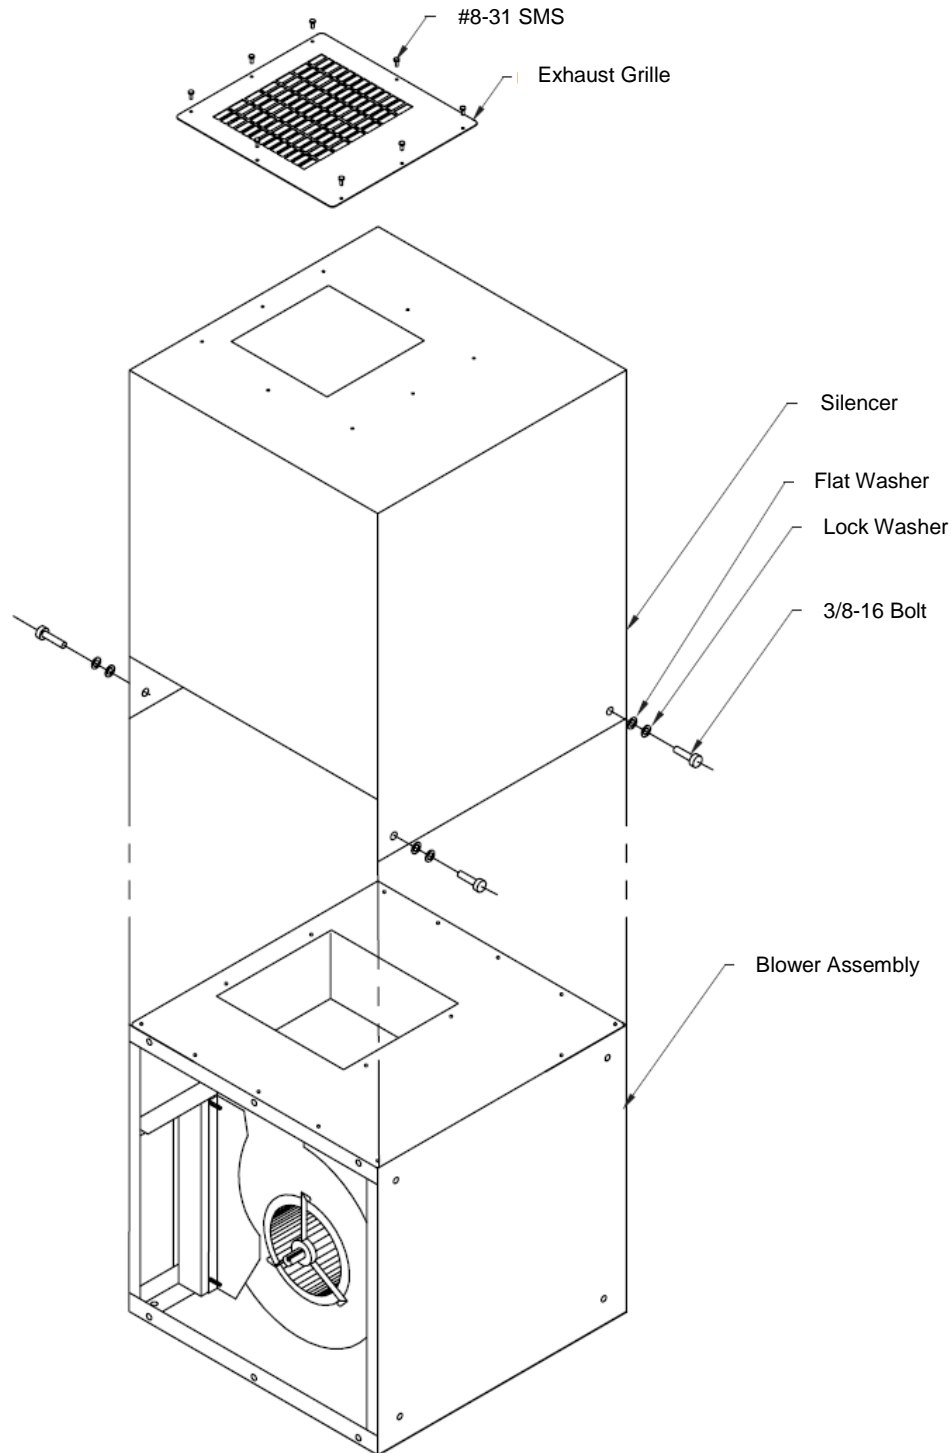

FIG. 7
1. Remove exhaust grille from unit as shown in Fig. 7.